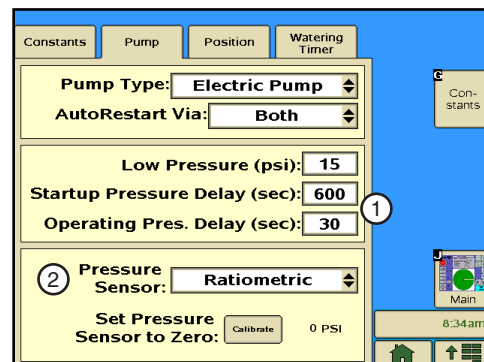

Figure 29-1 1. Startup and Operating Pressure Delay Fields
1. Push **Setup**, **Constants**, **Pump** to display the **Startup Pressure Delay** and **Operating Pressure Delay** fields. Refer to Figure 29-1.
1. Push **Setup**, **Constants**, **Pump** to display the **Pressure Sensor** setting. Refer to Figure 29-1.